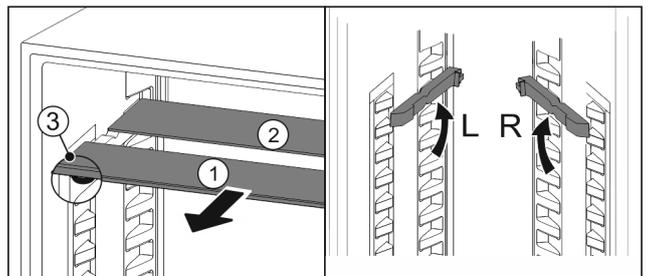

Fig. 74
- ▶ Pull the glass panels out Fig. 74 (1) from the front, one at a time.
- ▷ The glass panel Fig. 74 (1) and trim strip are at the front.
- ▷ The stops Fig. 74 (3) point down.